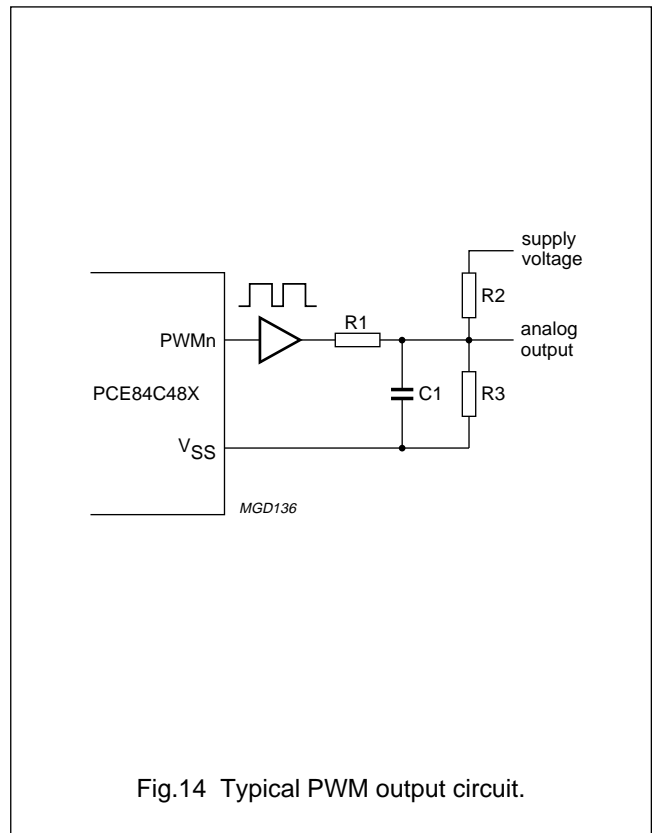

Fig.14 Typical PWM output circuit.
A typical PWM application is shown in Fig.14. R1 and C1 form an integration network the time constant of which should be at least 5 times greater than the repetition period of the PWM output pattern. In order to smooth a changing PWM output a high value of C1 should be chosen. The value of C1 will normally be in the range 1 to 10 μ F. The potential divider chain formed by R2 and R3 is used only when the output voltage is to be offset. The output voltages for this application are calculated using Equations (1) and (2).